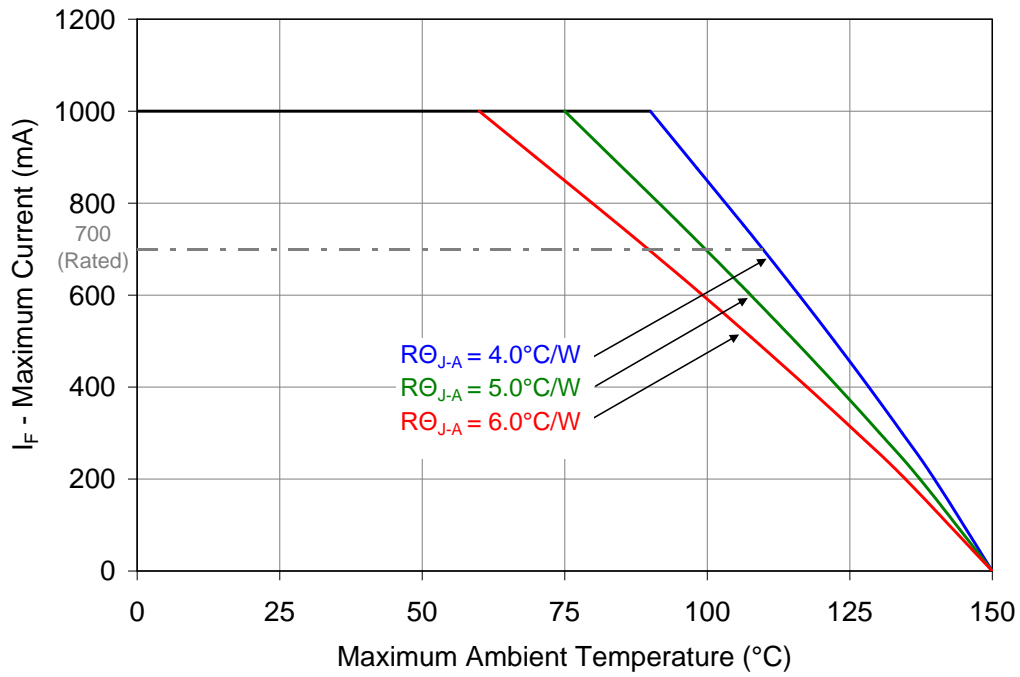

Figure 11: Maximum forward current vs. ambient temperature based on $T_{J(\text{MAX})} = 150^{\circ}\text{C}$.
- Maximum DC forward current (per die) is determined by the overall thermal resistance and ambient temperature. Follow the curves in Figure 11 for current derating.
Notes for Figure 11: